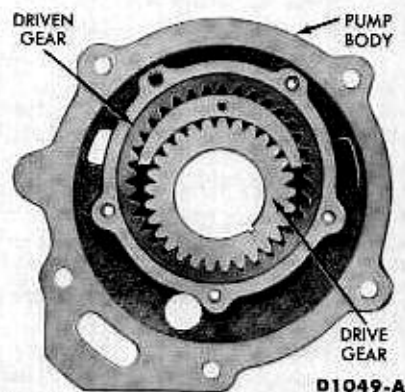

FIG. 18—Rear Pump
2. Mark the top face of the pump drive and driven gear with prussian blue to assure correct installation of gears at assembly (Fig. 18). **Do not scratch or punch marks on the pump gears.**